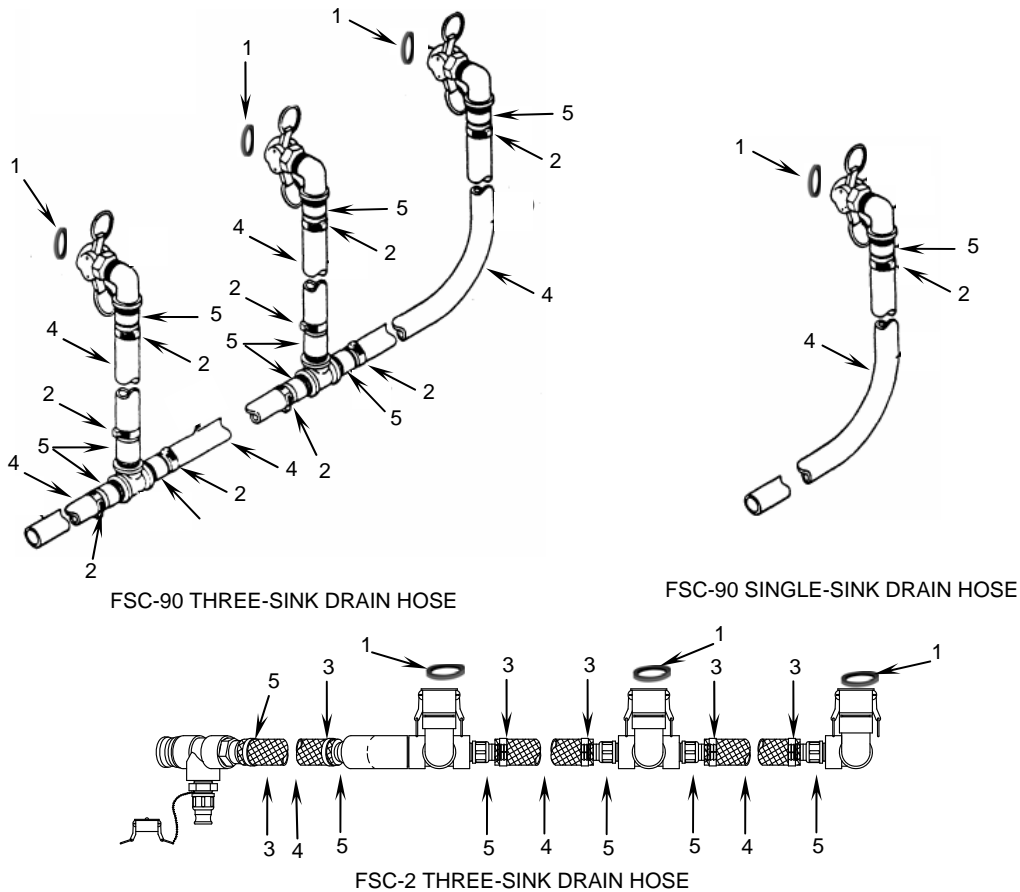

Figure 1. Replacing Sink Drain Hose Gaskets and Hoses.
1. Remove existing gasket (**Figure 1, Item 1**) using a needle-nose pliers.
1. (FSC-90 only) Loosen worm-gear hose clamps (**Figure 1, Item 2**).
2. (FSC-2 only) Remove and discard the crimped-on hose clamps (**Figure 1, Item 3**).
3. Slide the defective hoses (**Figure 1, Item 4**) off adapters (**Figure 1, Item 5**).
6. Slide hose end (**Figure 1, Item 4**) over adapters (**Figure 1, Item 5**).